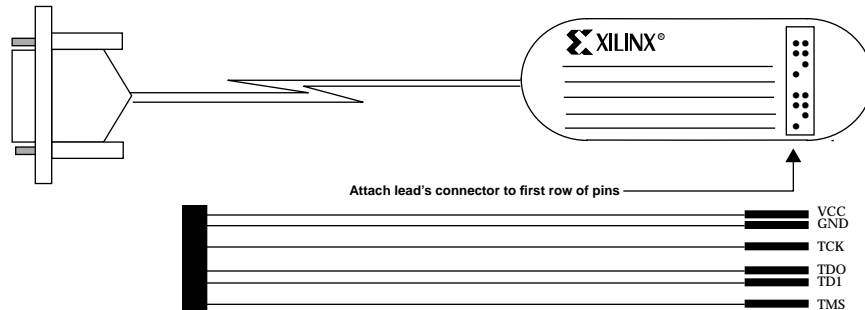

Figure 3-1 EZTAG Cable and Leads
2. Attach the flying leads to the EZTAG Download Cable (see Figure 3.1). Leads attach to the inside row. The connector is designed to fit only the correct way.